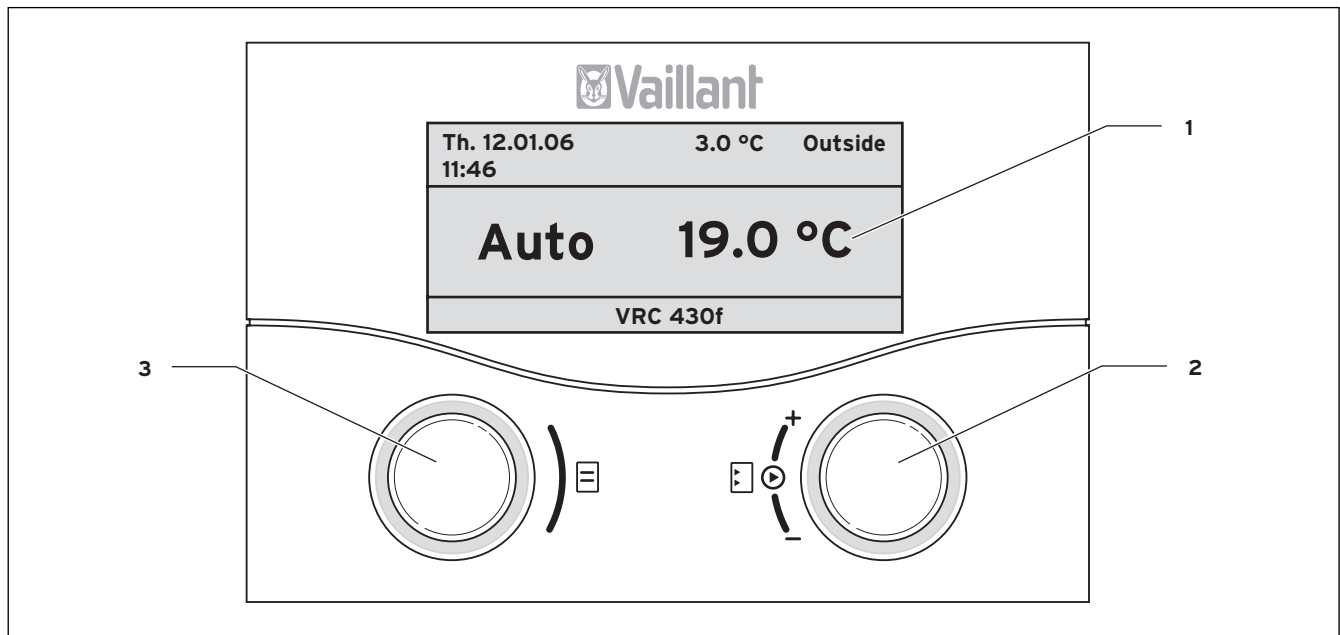

Fig. 4.1 Overview of the operating and display front (example: default display)
Fig. 4.1 shows the default display. The following information can be obtained from the default display:
- Default display (Fig. 4.1)
The two dials (Fig. 4.1 Items **2** and **3**) function according to the Vaillant "turn and click" principle.